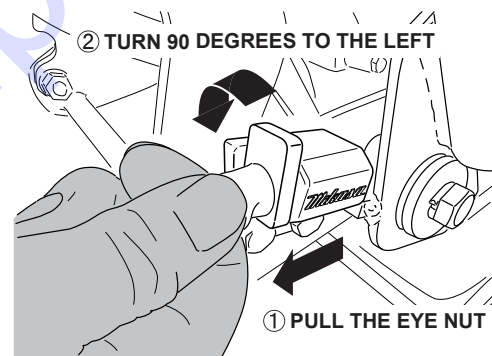

Figure 17. Handle Stopper Eye Nut
5. Pull the eye nut of handle stopper, then turn it to the left 90 degrees (Figure 17).